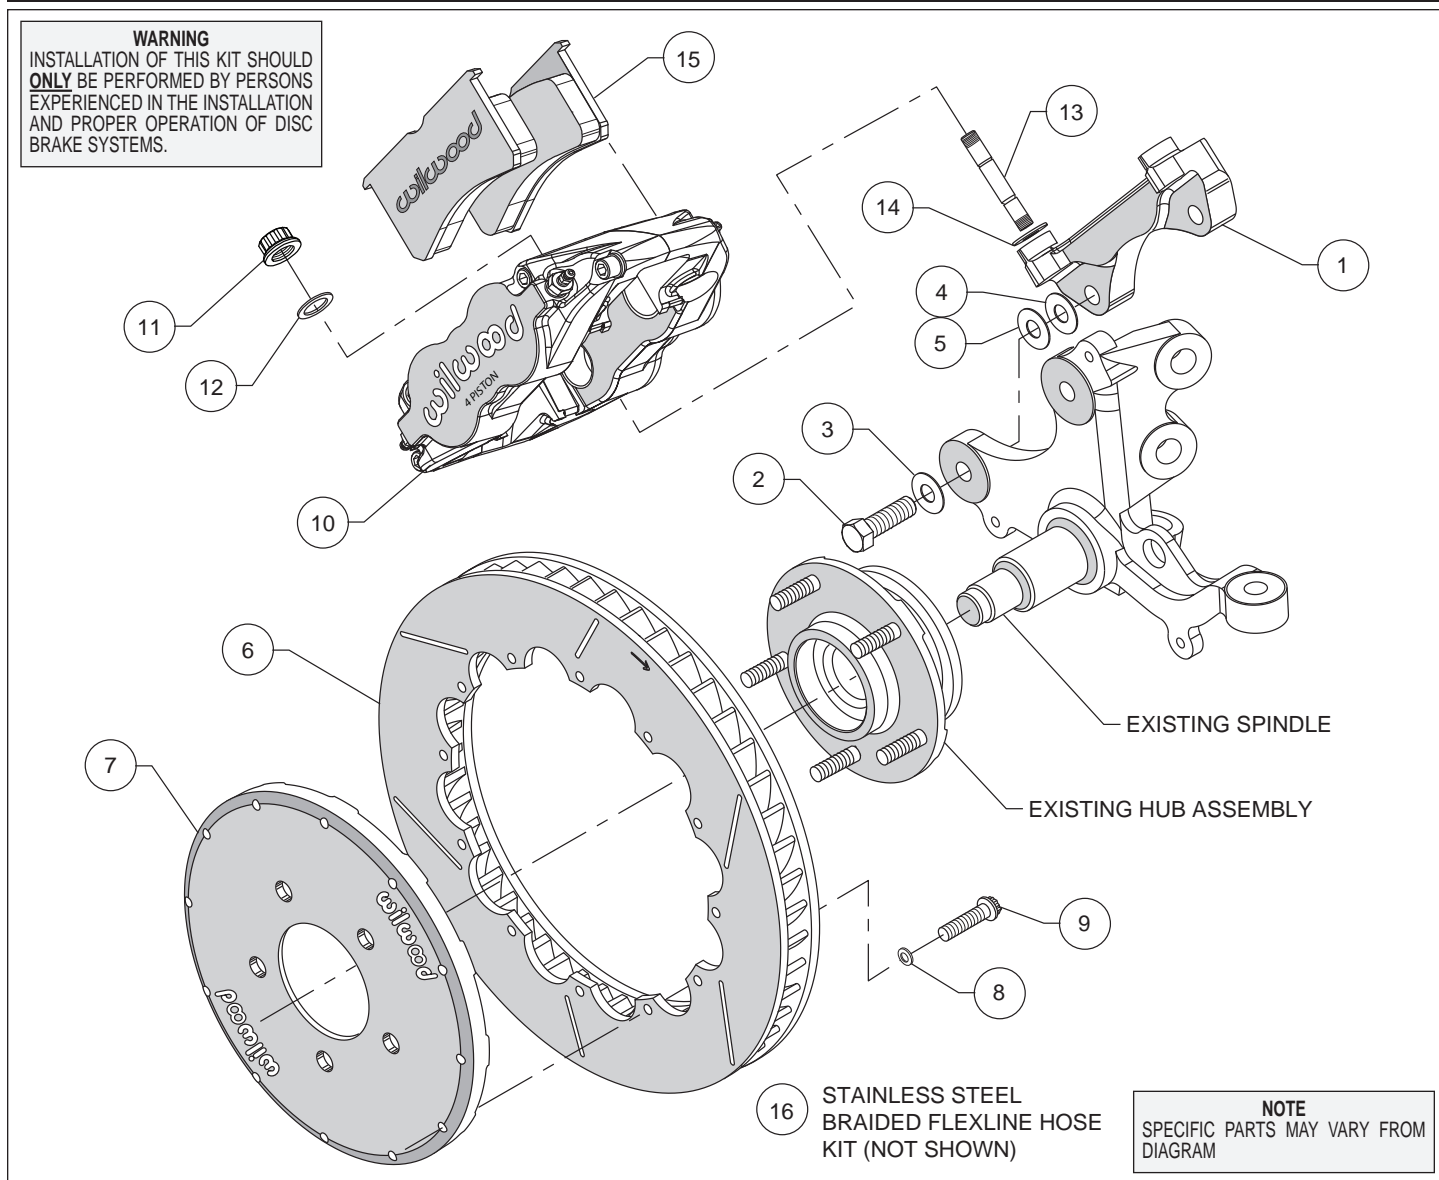
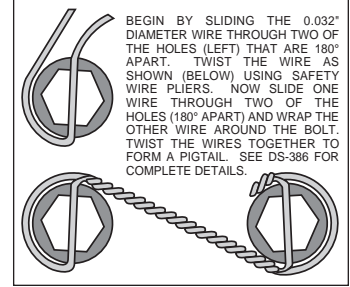

Figure 1. Typical Installation Configuration
Figure 3. Safety Wire Diagram
**Assembly Instructions** (numbers in parenthesis refer to the parts list and Figure 1 on the preceding page):
- The caliper mount bracket (1) should initially be installed with clean, dry threads on the mounting bolts. Orient the bracket as shown in Figure 1, and install using bolts (2) and washer (3). Initially place one .033 thick shim (4) on each bolt between the bracket and upright, Figure 1. Temporarily tighten the mounting bolts. Later, after the caliper alignment has been checked, the mount bolts will be secured using red *Loctite*® 271.
- Orient the rotor (6) and the hat (7) as shown in Figure 1 and Photo 1. Attach rotor to hat using bolts (9) and washers (8). Using an alternating sequence, apply red *Loctite*® 271 to the threads, and torque to 155 in-lbs. Safety wire bolts using standard 0.032 inch diameter stainless steel safety wire as shown in Figure 3. Refer to Wilwood's data sheet DS-386 (available at [www.wilwood.com/Pdf/DataSheets/ds386.pdf](http://www.wilwood.com/Pdf/DataSheets/ds386.pdf)) for complete safety wire installation instructions.
- NOTE:** This kit contains distinct right and left hand calipers that must be mounted in a specific direction, as described below. Lubricate the caliper mounting studs (13) with lightweight oil. Initially place one .035" thick shim (14) on each stud as shown in Figure 1 and Photo 2. Mount the caliper (10) onto the bracket (1) using lock nuts (11) and washers (12), Figure 1. Ensure that the caliper is mounted so that the largest pistons are at the rotor exit end of the caliper, in relation to the direction of rotor rotation. Temporarily tighten the lock nuts and view the rotor through the top opening of the caliper. The rotor should be centered in the caliper, Photo 3. If not, adjust by adding or subtracting shims (4 and/or 5) between the bracket and the upright. Always use the same amount of shims on each of the two mounting bolts. Once the caliper alignment is correct, remove the bracket mounting bolts one at a time, apply red *Loctite*® 271 to the threads, and torque to 60 ft-lbs.